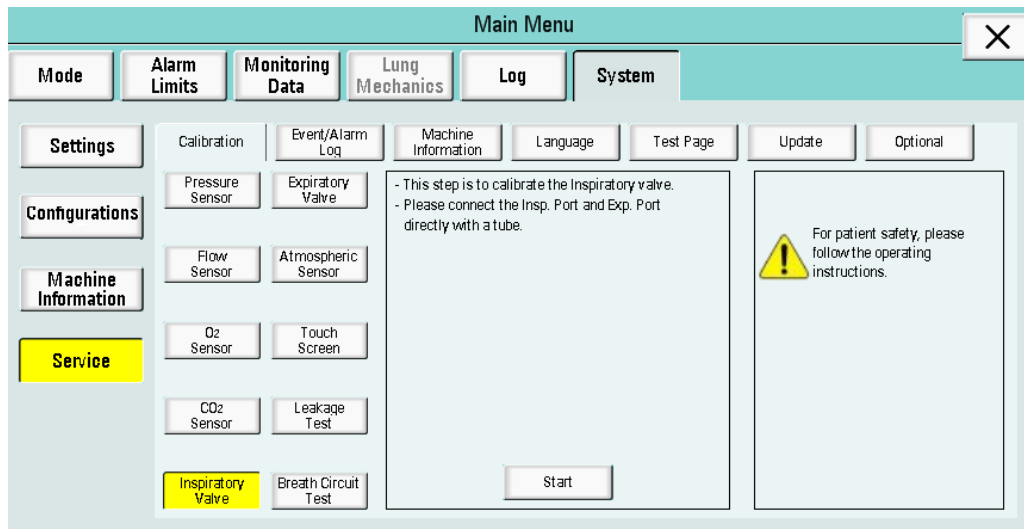

Figure 6-66
(5) Inspiratory Valve Calibration: Click “Inspiratory Valve” to enter the interface. A message displayed: “This step is to calibrate the inspiratory valve. Please connect the Insp. Port and Exp. Port directly with a tube”, as shown in Figure 6-66.